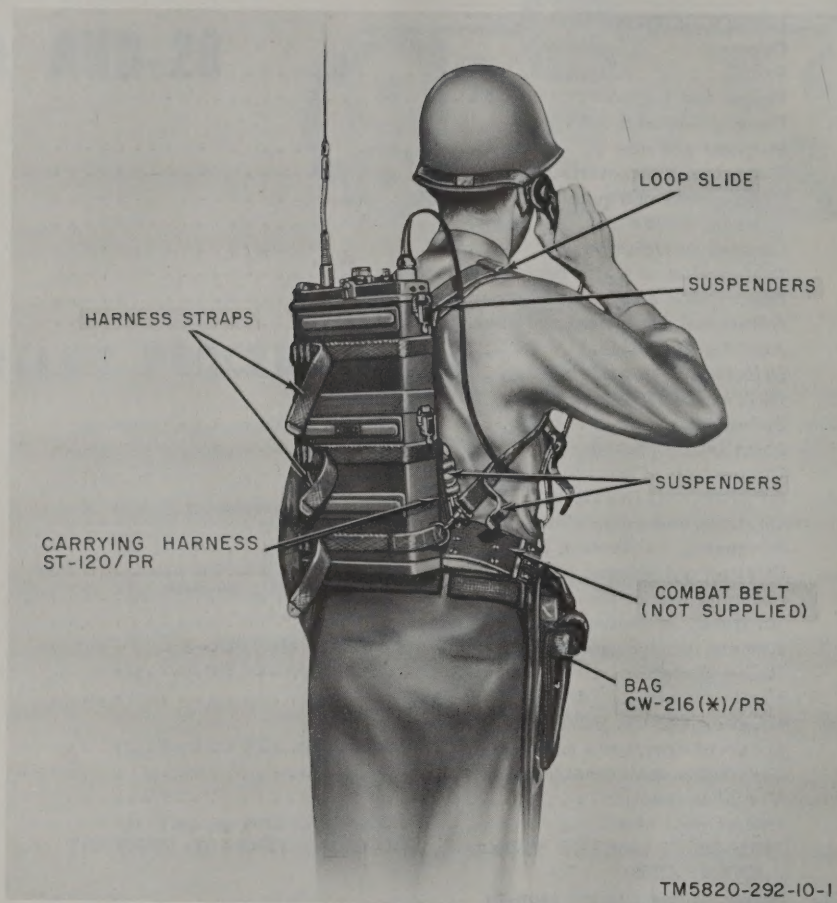

Figure 1. Typical pack-mounted radio set.
a. This manual describes Radio Sets AN/PRC-8, -8A, -9, -9A, -10, -10A, and -28 (fig. 1) and contains instructions for installation, operation, and operator's maintenance of the radio sets. Appendix I contains a list of references and appendix II contains a list of basic issue items.
mitters which can be pack-mounted (fig. 1) or installed in vehicles to provide voice communication over relatively short distances (para 4); they can also be used for